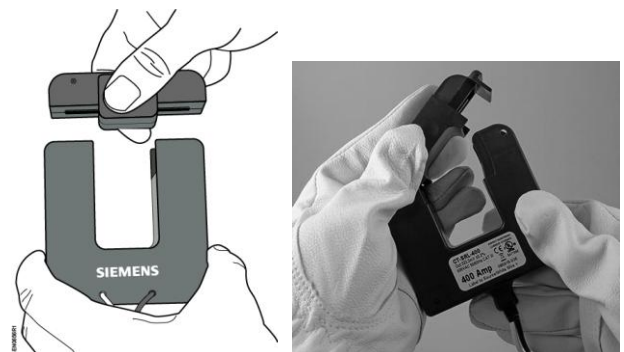

Figure 1. Open the CT.
1. Open the CT by holding onto the removable leg and pulling it apart for the SCT-SCx series or open by small corner clasp for the SCT-SRx series. See Figure 1 examples.